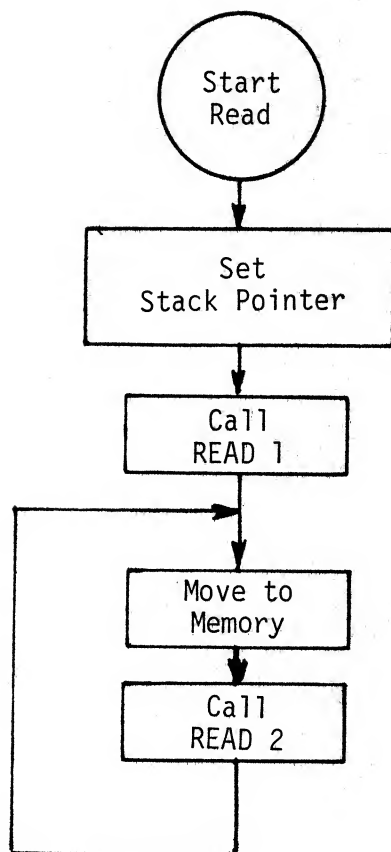

Figure 11. Read 1702A and 2704/2708
5.2.3.1 Read 1702A and 2704/2708 flow diagram is given in Figure 11. The word Read from the EPROM is placed into memory.